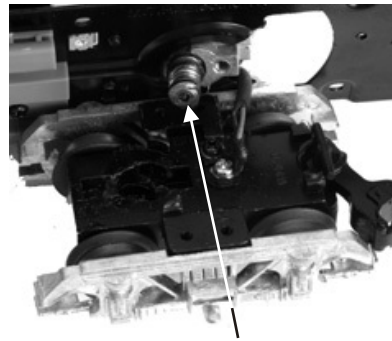

Figure 6
3. Once the motor mount screw has been removed, pull the motor away from the truck block and lightly coat the motor worm gear and bronze drive gear (in the truck block) with grease. (Figure 6)